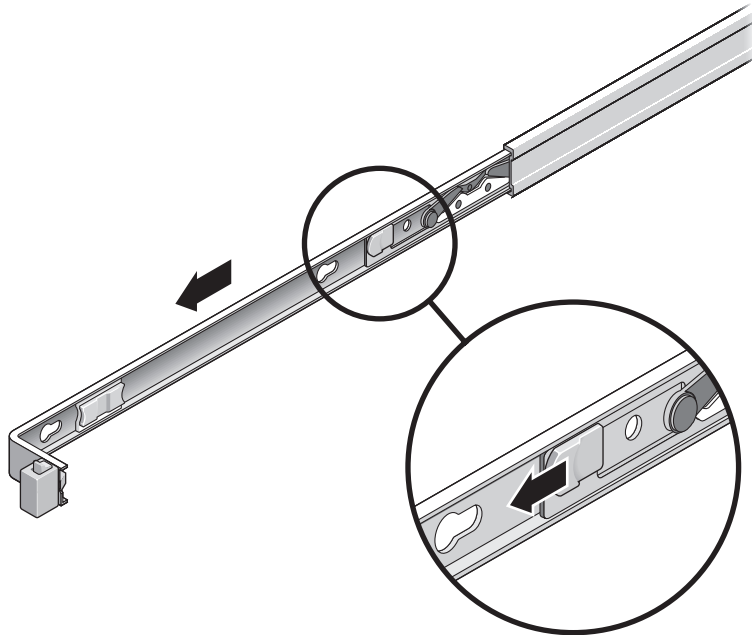

FIGURE 2-2 Location of the Mounting Bracket Release Button
- c. Slide the mounting bracket release button in the direction shown in FIGURE 2-2, then slide the mounting bracket out of the slide rail.